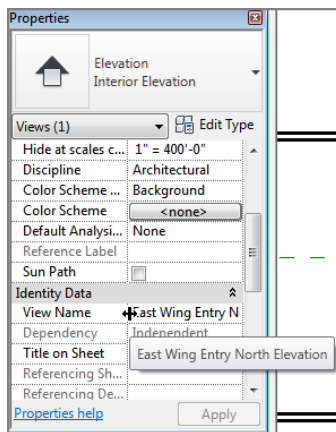

FIGURE 3.83: Changing the View Name setting to East Wing Entry North Elevation
2. The Properties dialog provides a wealth of information about that view. You have a multitude of options as well. Find the View Name option under the Identity Data heading, and change it to East Wing Entry North Elevation, as shown in Figure 3.83.